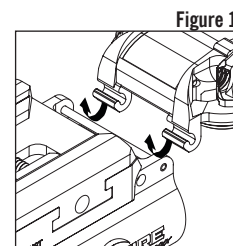

Figure 1
1. Attach battery cover by aligning cover hinges with WeaponLight hinge pin (Figure 1) and carefully snapping hinges onto pin.